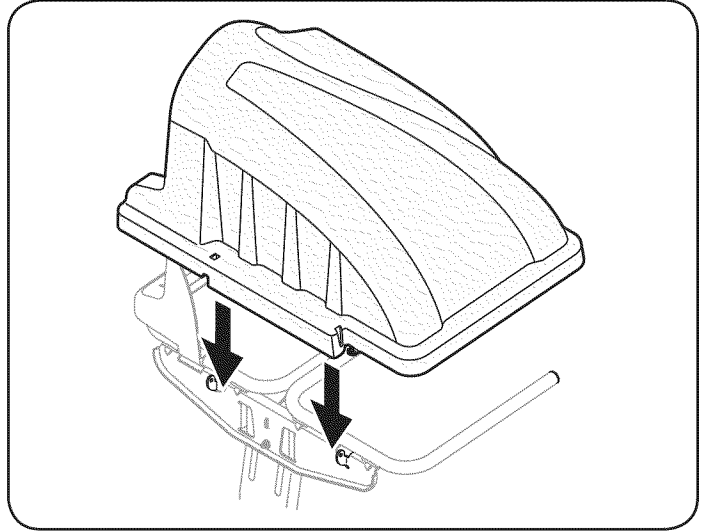

Figure 13
5. Install the grass catcher cover onto the bin support assembly, as seen in Fig. 13. The grass catcher cover goes inside of the two mounting tabs on the bin support assembly.